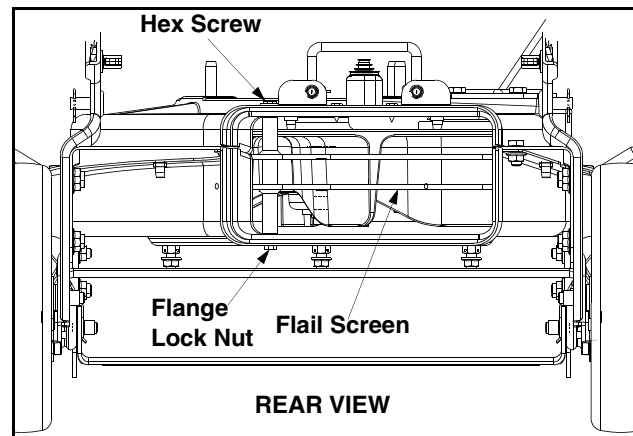

Figure 15
- Remove the vacuum bag or blower chute from the unit as instructed in the OPERATION section to obtain access to flail screen. See Figure 15.
- Remove hex screw on top of rear housing near mounting bracket and the flange lock nut that secures flail screen. See Figure 15.
- Remove flange lock nut that secures flail screen to the lower housing. The flail screen does not have to be removed. Refer to Figure 15.